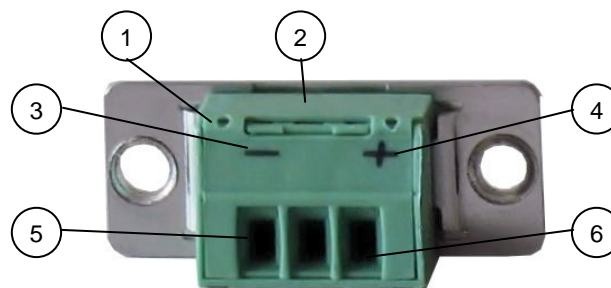
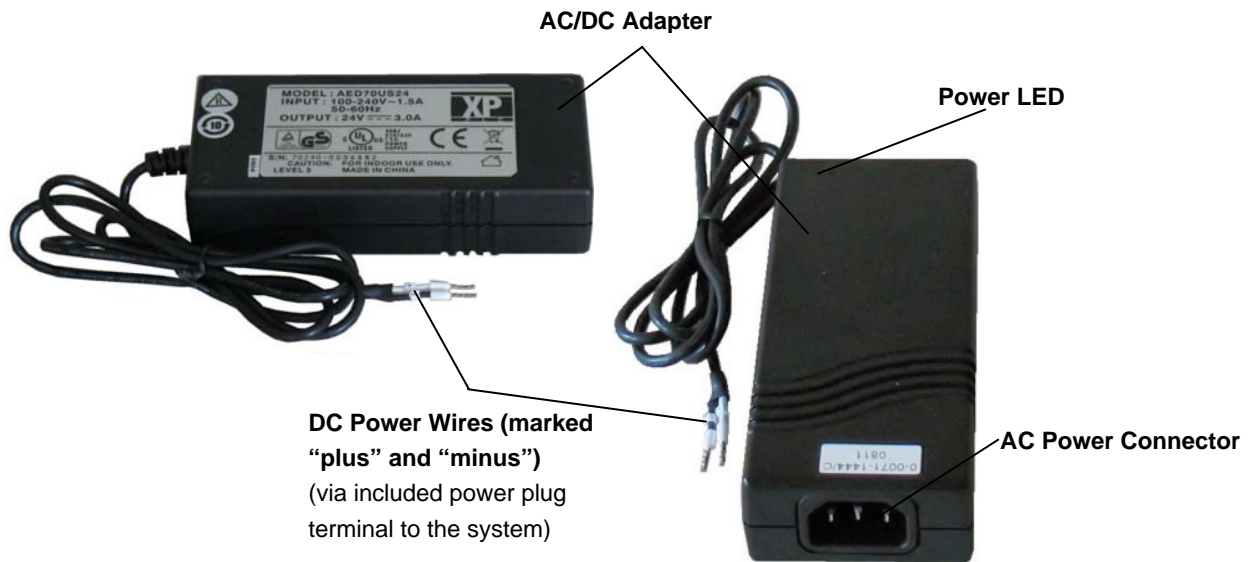

Fig. 33: Phoenix plug terminal with "plus" and "minus" marking (M@CII 70/104/121/150)
Fig. 34: Optional external AC/DC adapter (not included)
6. Insert the wires into the corresponding clamp of the Phoenix plug terminal. Make sure that you have the right polarity of the connection (refer to Fig. 33).
In order to use the AC/DC adapter with the M@CII 70/104/121/150 system, you have to connect the DC power wires of the AC/DC adapter (marked “plus” and “minus”) (refer to Fig. 34) to the Phoenix plug terminal (included) (refer to Fig. 33). Make sure that you have the right polarity of the connection (refer to Fig. 33).
The M@CII 70/104/121/150 system can be optionally connected to an AC power source via the optional AC/DC adapter (refer to Fig. 34).